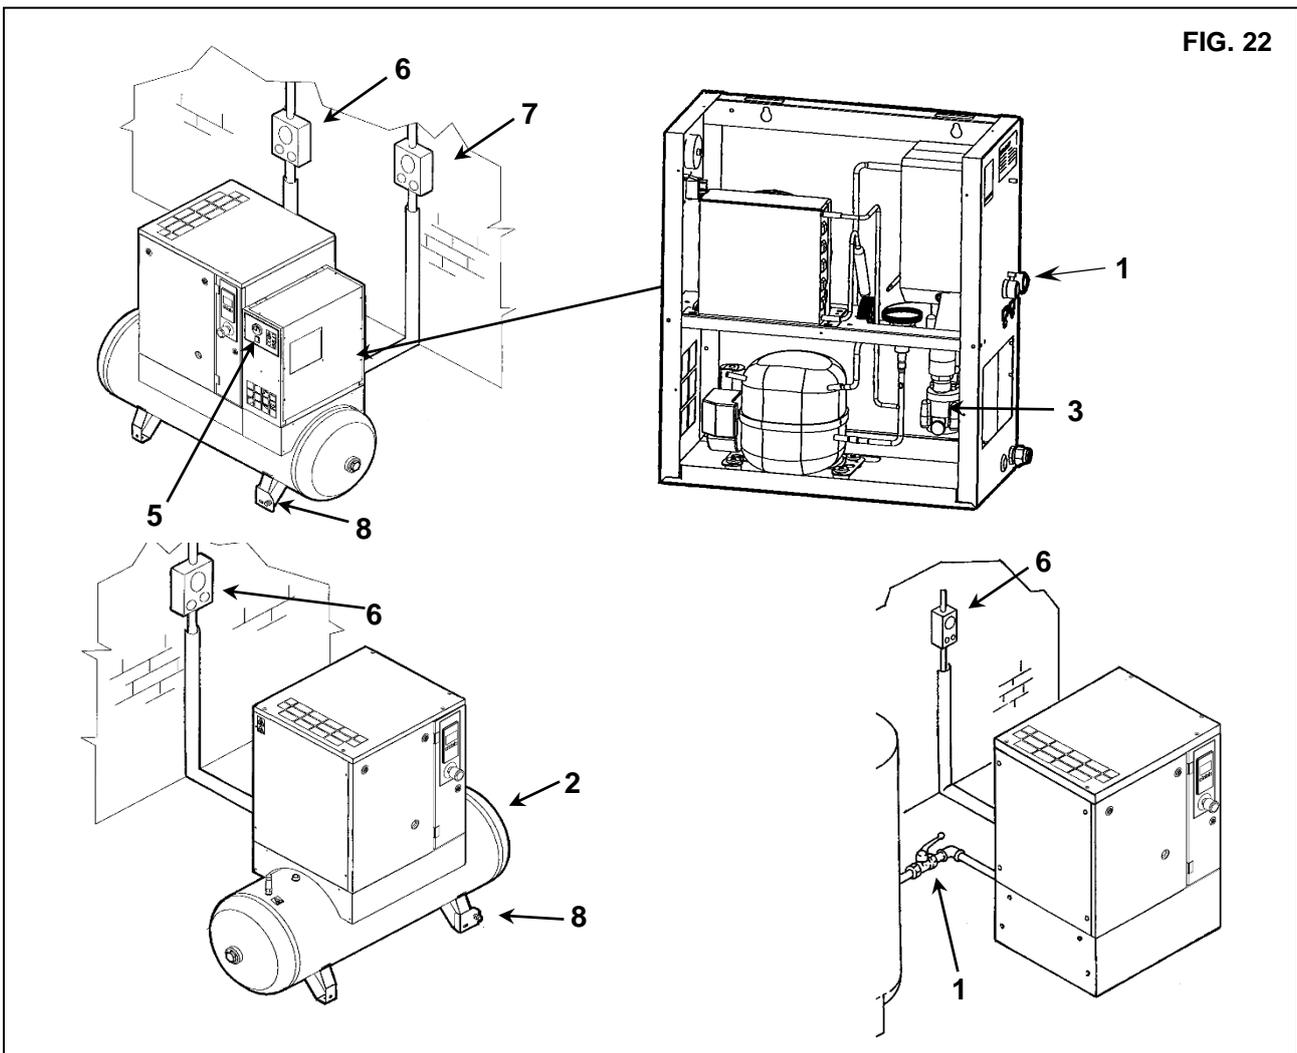

FIG. 22
16.0 PERIODS OF INACTIVITY (FIG. 22)
- Close the valve Ref. 1 and Ref. 2 Fig. 22.
- Press the button switch Ref. 5 Fig. 22 (if unit with dryer)
- Disconnect the power supply by means of the disconnecter switch, Ref. 6 (on the screw-compressor) and Ref. 7 (on the dryer if fitted) Fig. 22.
- Release the pressure from the dryer and air tank by opening the drain outlet valve Ref. 8 Fig. 22.
- Close the valve Ref. 8 Fig. 22 after the residual pressure in the unit is all released.